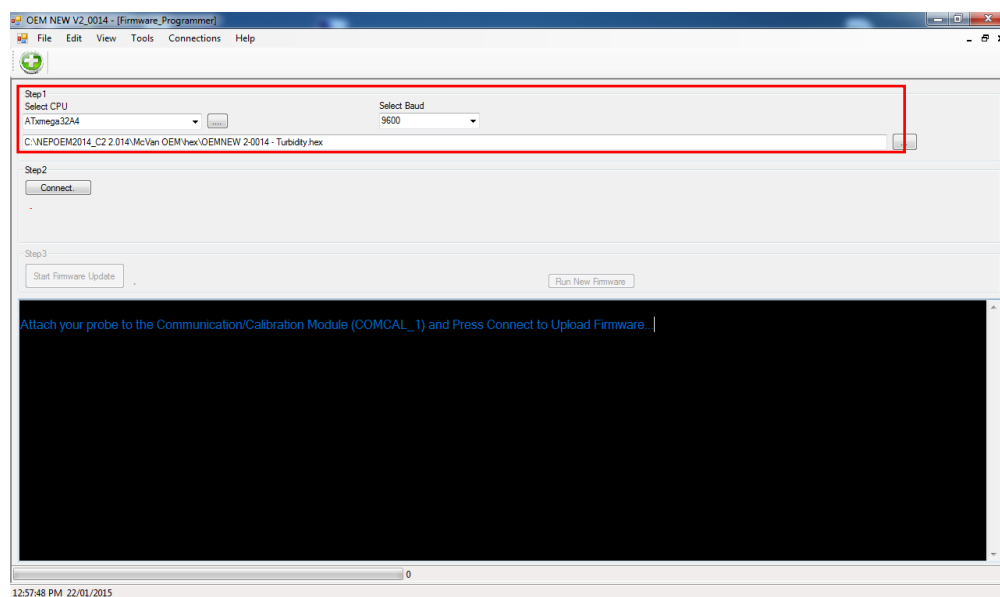

Figure 12
- 5) Press “Tools” from the bar and select “Firmware Programmer.” Ensure all the settings are the same as in the Figure 12.